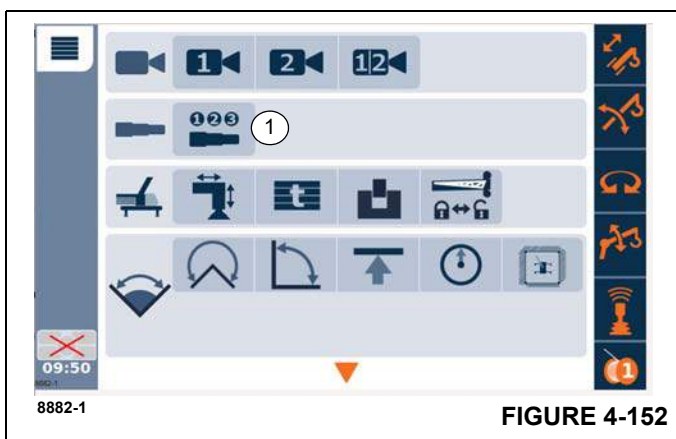

FIGURE 4-152
- Enter the Semi-Auto screen on the operating display. The icon for this screen is (1), (Figure 4-152).